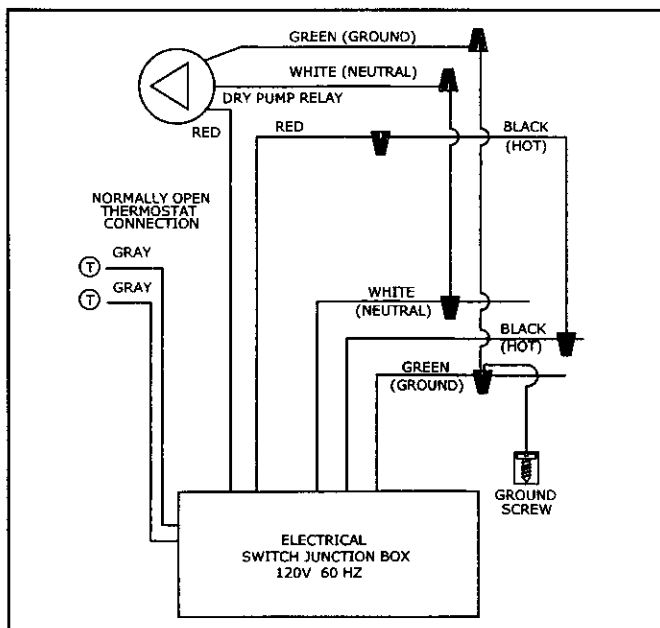

Figure 13: Connection Wiring with Circulator Relay
1. Refer to Figures 13 and 14 for power supply connection to boiler. Use #14 AWG size wire.
4. The boiler is supplied with a burner service switch. When referring to Figures 13 and 14, wire the burner service switch in the (HOT) line to boiler.
8. For connection to system circulator and room thermostat refer to Figures 13 and 14. Thermostat anticipator setting is 0.56 amp.